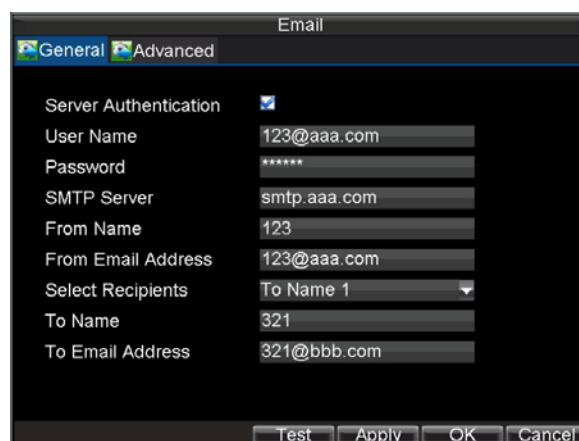

Figure 13. E-mail Menu
3. Click the Set button next to **E-mail** to enter the E-mail menu. The E-mail menu is shown in Figure 13.
4. Enter e-mail settings. Please refer to Figure 13 for details.